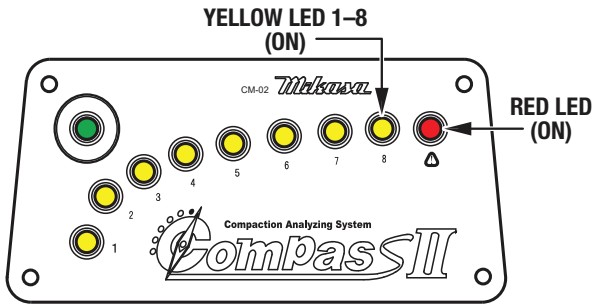

Figure 49. Sensor Panel Display (Compaction Limit)
- When the compaction limit is reached, the red LED will turn on (Figure 49). This will only happen **after** all eight yellow LEDs have turned on.